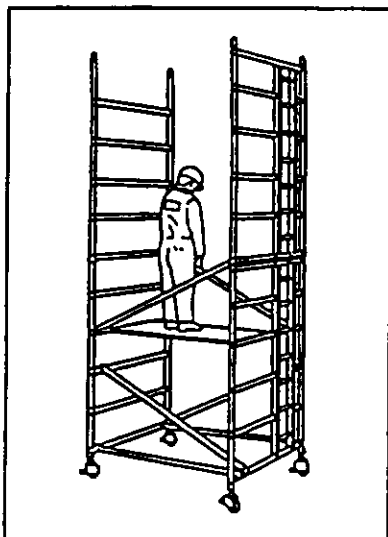
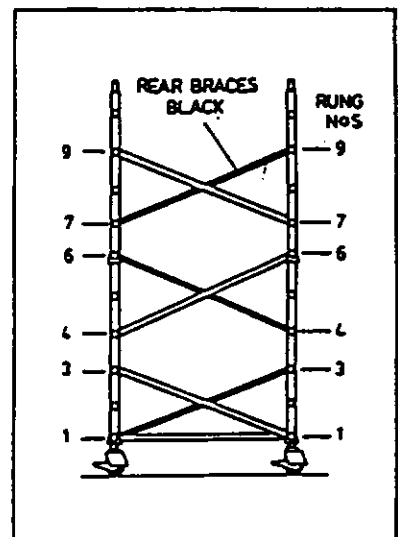

Fig.14
Fig.15
- c. Attach two BDS6 Diagonal Braces to the Base Section as in Figure 14, and two more Braces to the upper two End Frames as illustrated in Figure 15.